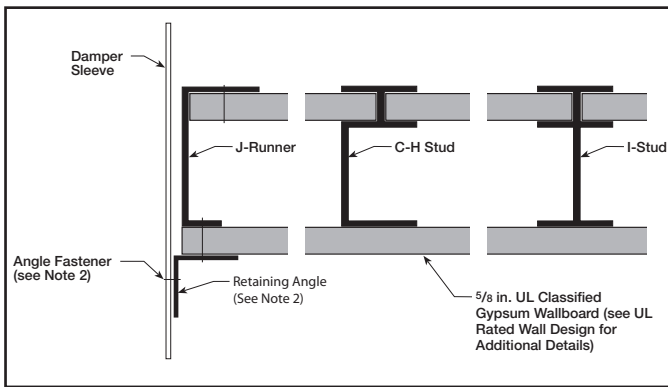
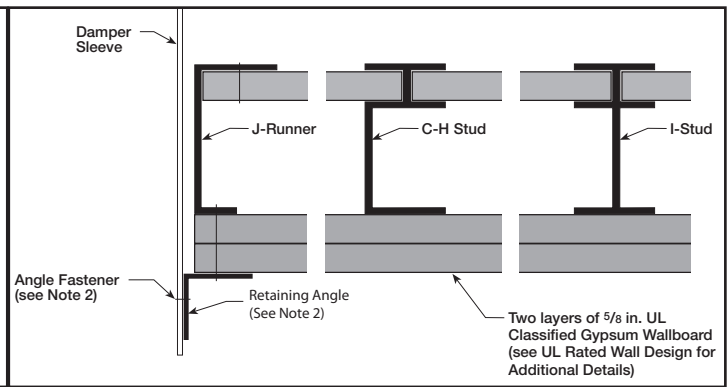

Figure 3: 1 Hour Shaftwall Rating
Figure 4: 2 Hour Shaftwall Rating
2. Fire damper and sleeve assemblies 80 in. W x 50 in. H (2032 mm x 1270 mm), 50 in. W x 80 in. H (1270 mm x 2032 mm), or 40 in. W x 100 in. H (1016 mm x 2540 mm) and smaller only require retaining angles on one side of the partition (See **Figure 3** and **Figure 4**). Retaining angles must be attached to the sleeve and the partition. Larger damper assemblies require retaining angles on both sides of the partition. Retaining angles must be attached to the sleeve.